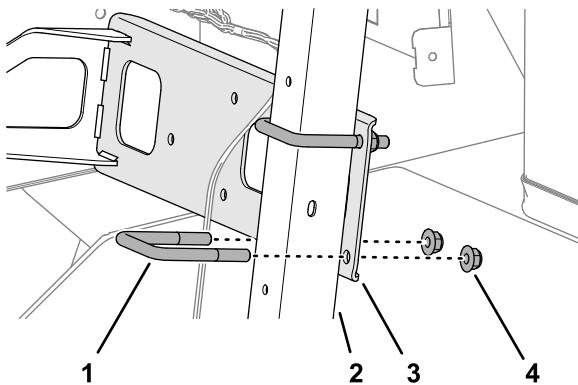

**Figure 67**
2. Align the holes in the manifold mount with the slots in the flange of the storage compartment (Figure 67).
- Loosely assemble the manifold mount to the flange (Figure 67) with 2 flange-head capscrews (1/4 x 1/2 inch), 2 washers (1/4 inch), and 2 flange locknuts (1/4 inch).